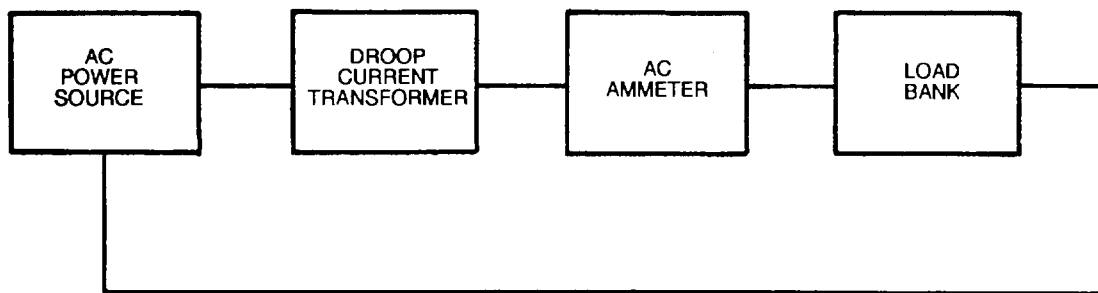

FIGURE 4-7. Testing Droop Current Transformer
- d. Set up a test circuit using 10 gauge wire as shown in FIGURE 4-7. Make ten passes with wire through window of droop current transformer.